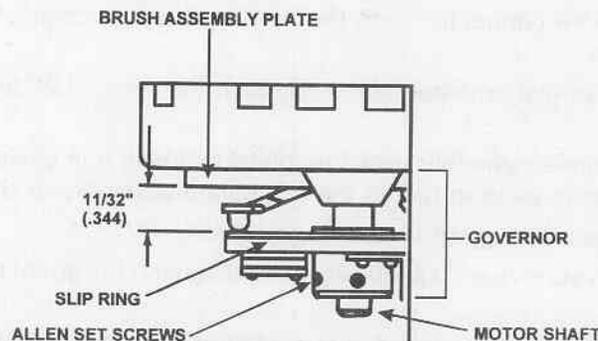

Figure 3-8. Governor brush assembly clearance.
- (1) Install the replacement brush assembly and fasten it to the motor housing by reinstalling the two hex nuts.
- (2) Reinstall the two electrical terminal connectors while following the previously recorded wire colors and connector locations.
- (3) Install the replacement governor onto the motor shaft and slightly tighten the Allen set screws.
- (4) Check for a 1 1/32-inch clearance between the lower brush assembly plate and the governor slip rings (fig 3-8).